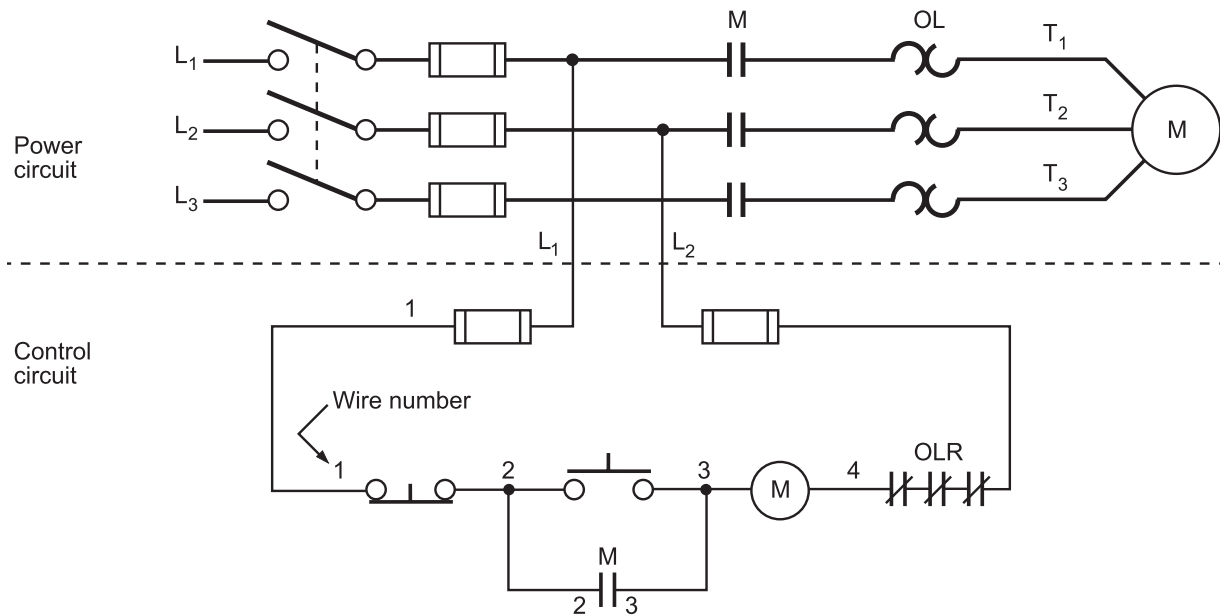
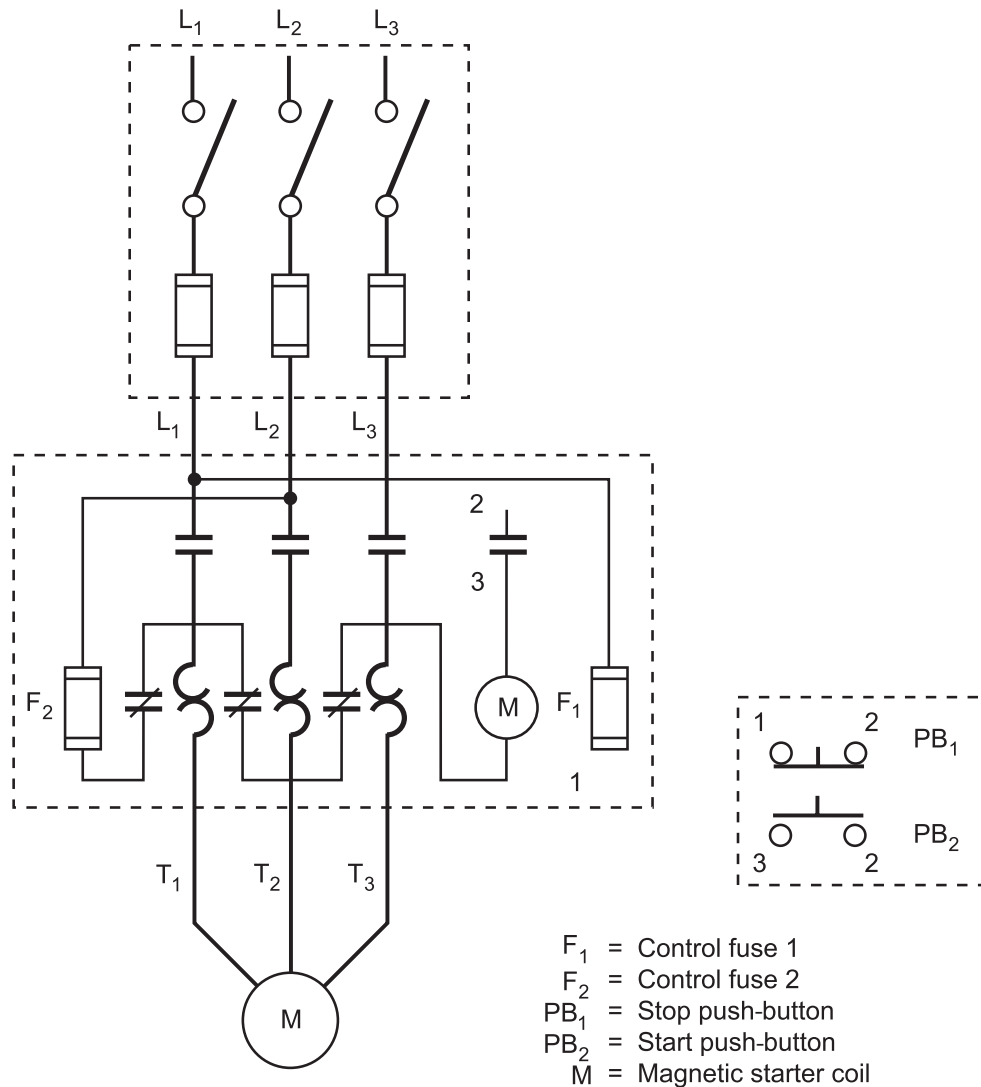

Figure 3—Wire-numbering system for motor control circuits
Figure 4—Developing the wiring diagram
To convert from a schematic to a wiring diagram, a simple numbering system is commonly used. The schematic diagram in Figure 3 represents a basic across-the-line magnetic starter with a single STOP-START push-button control.
- From this point in Figure 3, number the control circuit independently.
- Assign number 1 to the first wire entering the control circuit. In Figure 3, this is at the left-hand side of the control fuse to the STOP button.
Once you have completed the numbering of the schematic, you can use the information for a wiring diagram. Figure 4 is a partially completed wiring diagram showing the devices used in this schematic. The dotted lines represent the enclosures for different devices. The pushbutton station is separated off to the right.
- Compare the terminal numbers in Figure 4 with the schematic diagram in Figure 3.